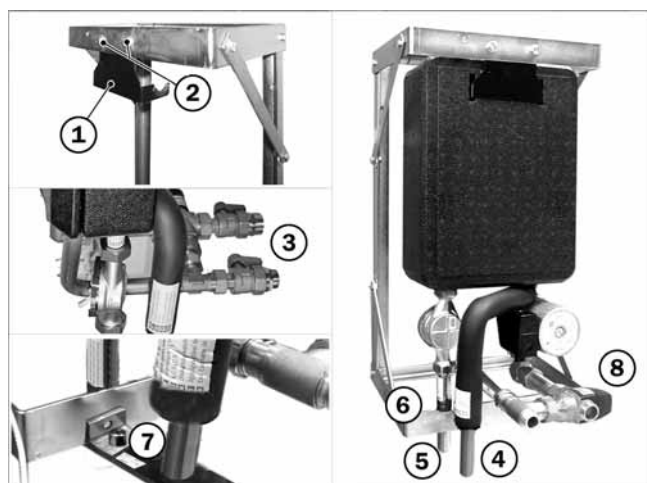

Fig.1: Installing the hot water station
The “thermal mixing valve”, → Fig. 1 (8), is preset at the factory. If it needs resetting, refer to → section “Setting the thermal mixing valve”.